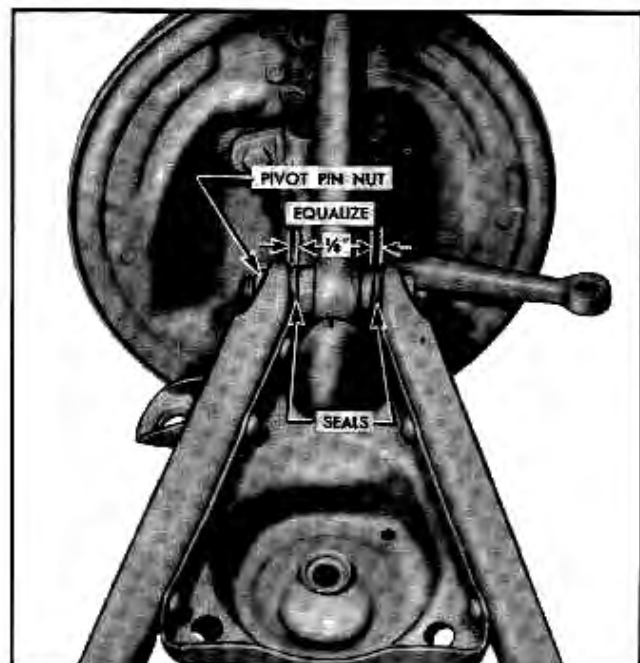

Fig. 3-18 Lower Pivot Pin Assembly
3. Remove nut from rear of left hand lower pivot pin or front of right hand pin (Fig. 3-18).
8. Position rubber seals at lower pivot pin bushing (Fig. 3-18). Hold bushing with knuckle support in a central position in forked end of lower control arm and install lower pivot pin and lockwasher after coating threads on pin with chassis lubricant. **NOTE:** Lower pivot pin must be centered, within one thread, between ends of control arm after lock nut has been tightened (Fig. 3-18).